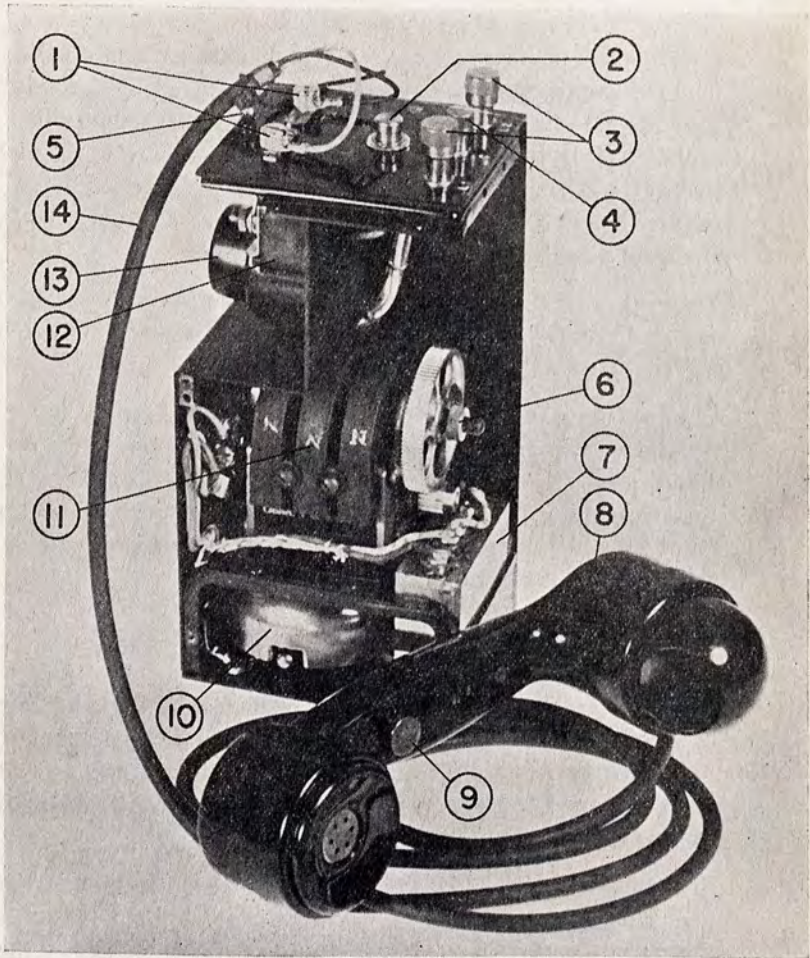
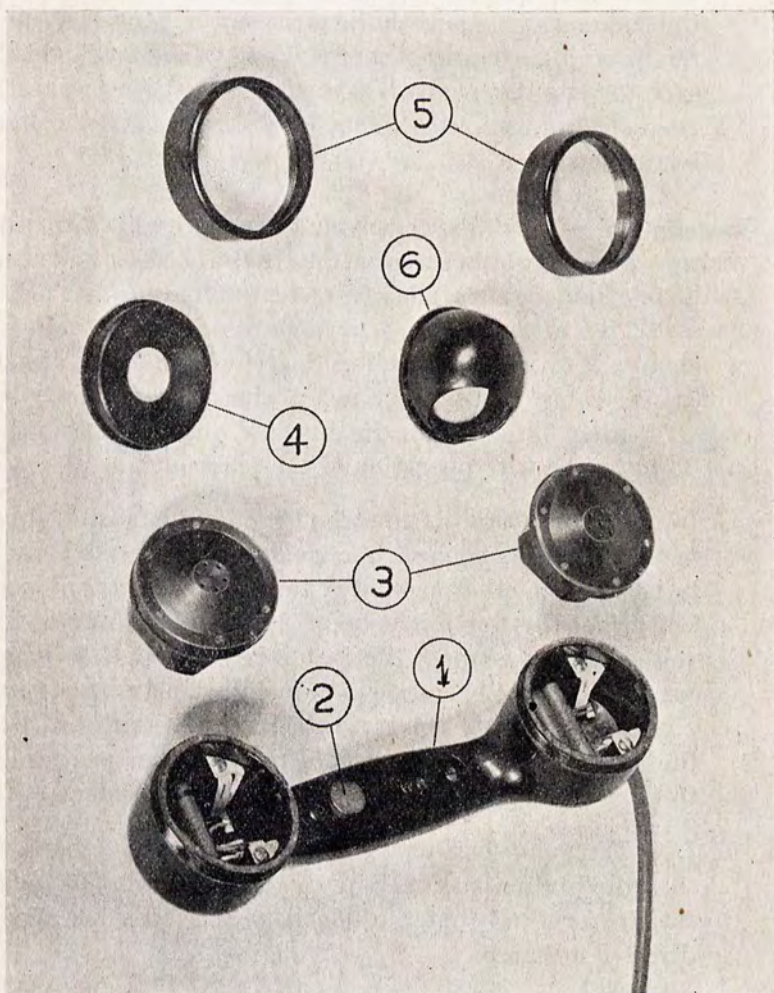

FIGURE 3. TELEPHONE EE-108 BODY ASSEMBLY, SIDE PLATES REMOVED.
FIGURE 4. HANDSET OF TELEPHONE EE-108, DISASSEMBLED.
- b. *Body*.—The body (see Fig. 3) is removed from the case by unscrewing the seven screws mentioned above and by lifting the body from the case. It is not necessary to remove the crank from the generator. On the front wall is pasted the wiring diagram shown in Fig. 6 and on the rear wall is pasted the schematic diagram shown in Fig. 5. The latter also includes the name of the manufacturer and the order number. The front and side walls may be removed as follows:
Unscrew the five screws holding the front wall to the chassis and remove the front wall; while holding the large gear of the generator firmly in the left hand, unscrew the crank with the right hand, beginning with a quick counter-clockwise jerk; unscrew the three screws holding the side wall to the body, and remove the side wall. Do not lose the rubber or "coprene" disc on the generator shaft. Fig. 3 shows the body with the front wall, crank, and side wall removed.
- h. Handset.*—The handset is shown in Fig. 3 (connected to the body) and in Fig. 4 (disassembled). It consists of the following parts:
- c. *Generator.*—The generator has three cobalt steel permanent magnets arranged on two field poles about an armature (see Fig. 3). The generator switch consists of spring contacts which in normal position connect the ringer across the line, but which upon rotation of the crank, disconnect the ringer and handset and place the output of the generator across the line. The crank handle folds into the metal-faced recess on the right side of the case.